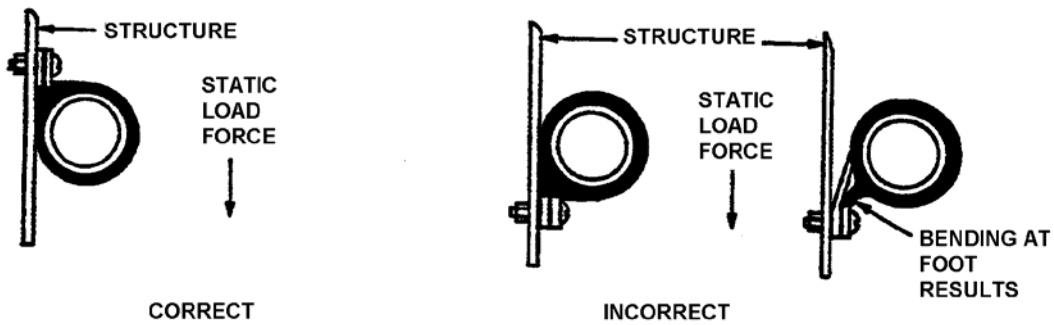

Figure 9. Clamping Tubes Vertically
28. Clamping Tubes Vertically. When mounting tubes to vertical structure, the static load force should oppose the mounting foot and bolt when using a single mounting point clamp. If the tube is mounted with the bolt below the tube, bending or distortion can and probably will result from either static load or personnel using the tubing as a handhold (Figure 9).